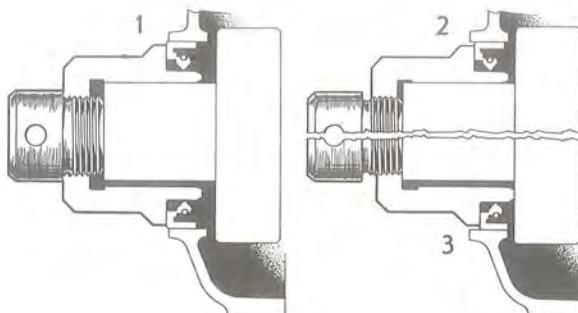

Fig. 2-32. Centre spindle position on SVO 2816
The sealing ring can be fitted in three positions with tool SVO 2817, see Fig. 2-32. With a new crankshaft or a crankshaft with approved wear surface, fit the seal in its outer position (fully screwed in centre bolt). With the wear mark on the crankshaft, fit the crankshaft with the centre bolt screwed out a couple of turns or completely.
N.B. First inspect the wear surface of the polygon hub. The oil seal can be fitted in three positions with tool SVO 2816. With a new polygon hub, the centre bolt of the tool should be screwed in fully, see Fig. 2-32. In this position, the seal will